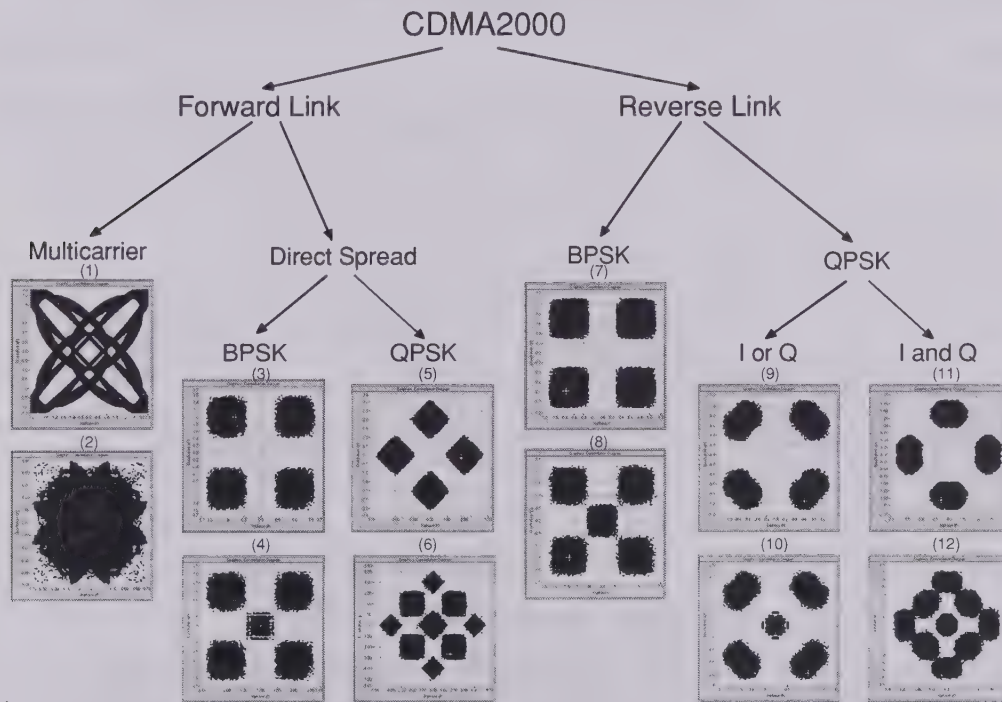

Fig. 12-33 Selection of CDMA2000 system
Because of the frequency shift of the two outer carriers, the corresponding subconstellations are quickly turned round. The ratio of the carrier spacing and the chip clock determines the appearance of the constellation. The two constellations (1) and (2) shown in Fig. 12-33 were obtained by squarewave filtering. When other standard filters (CDMA2000 1X) are used, the constellation normally occupies the complete I/Q layer, ie the structures are no longer recognized.
With CDMA2000, a great number of basic constellations can be distinguished depending on the link direction and channel type. The terms BPSK and QPSK in **Fig. 12-33** refer to data modulation. BPSK means that a bit of each symbol clock is spread and that the real spreading signal is scrambled with the PN short code. This method is used with all channels that have been taken from or are based on the preceding IS-95 system. These are:
As can be seen in Fig. 12-33 (4), a five-point constellation is thus obtained.
One channel is always set to I or Q only. If the second line is not used (I or Q subtree in Fig. 12-33, (9) and (10)), a similar constellation as with BPSK is obtained. Because of the skillful modification of PN sequences (HPSK), only 50% of all zero crossings are eliminated. This leads to a distortion of the constellation ranges.